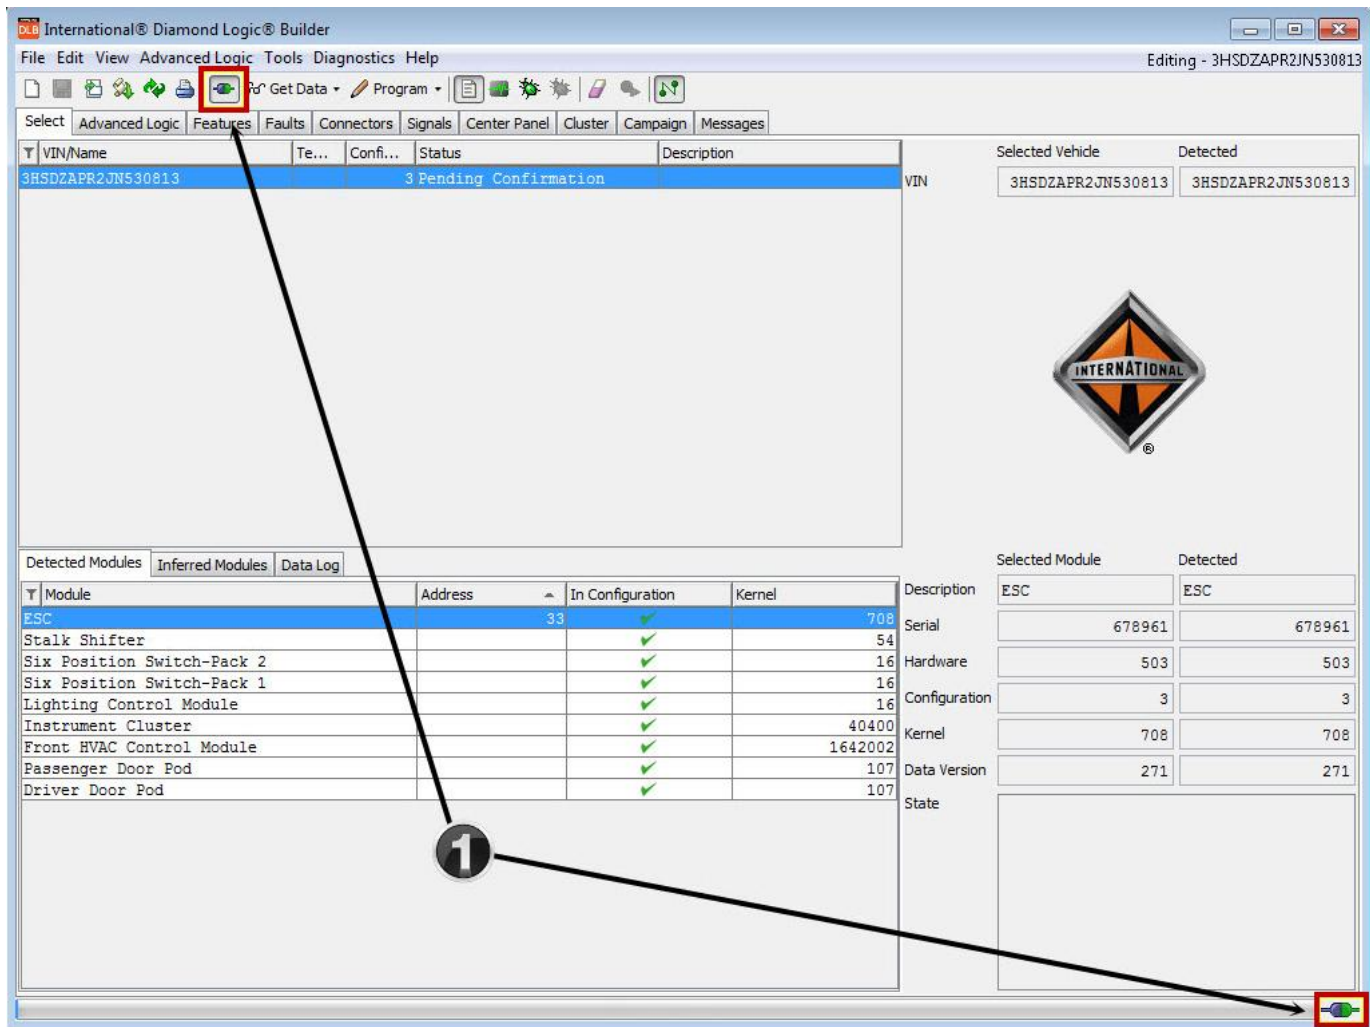

Figure 1: DLB connection
8. Connect to the vehicle with DLB (figure 1, item 1).